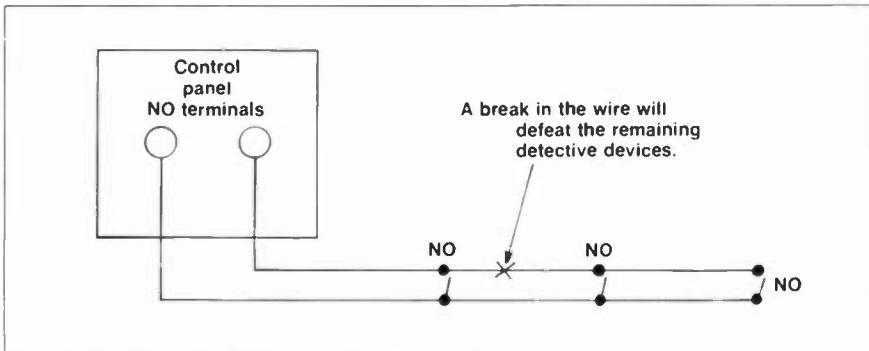

Fig. 5. The effect of an open in system using N O switches
Some control panels offer normally open (NO) protective circuits as burglar alarm circuits—utilizing normally open devices connected in parallel. (Normally open circuits are most frequently used for fire, panic and hold-up devices.) Unless the system is designed to use an end-of-line resistor for circuit supervision, a cut or break in the protective circuit will defeat all detectors beyond that point (Figure 5).